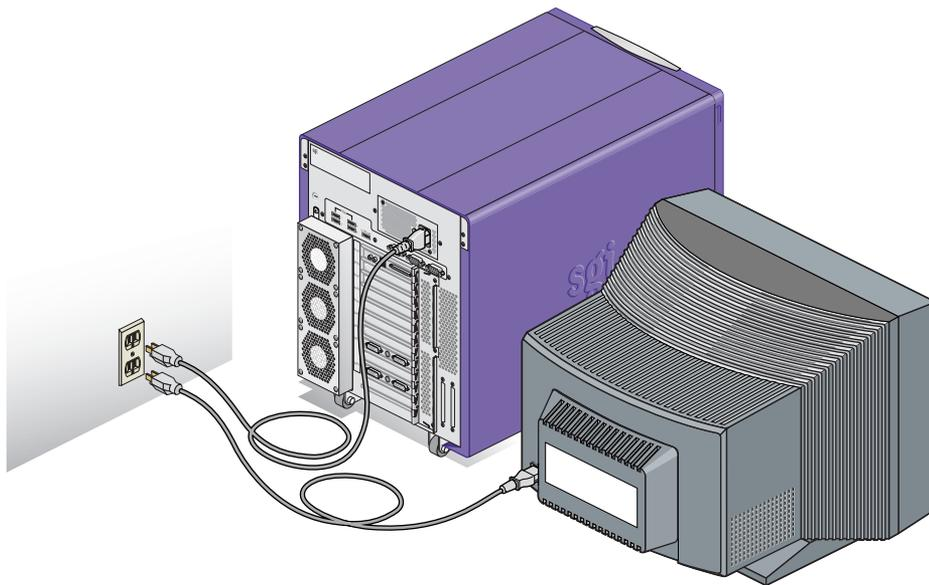

Figure 1-8 Connecting the System and Monitor Power Cables Example
4. Connect the power cables to your system and monitor. Then plug them into approved electrical outlets (see Figure 1-8).